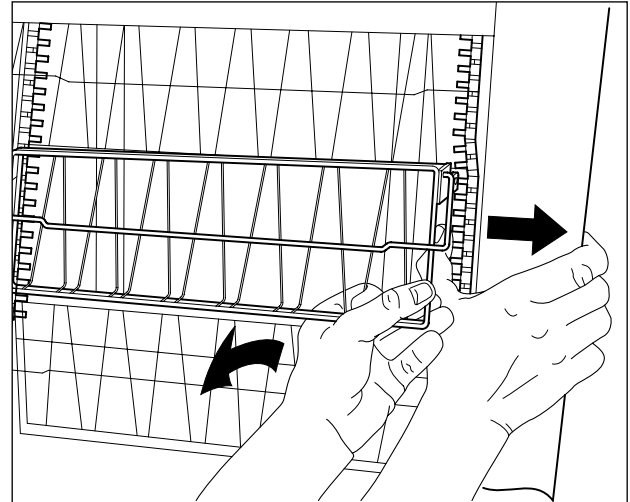

Figure 8. Removing/Installing Baskets
2. Remove the baskets by pushing the spring-loaded chain away from the basket while pulling the basket to the left and out. See Figure 8.